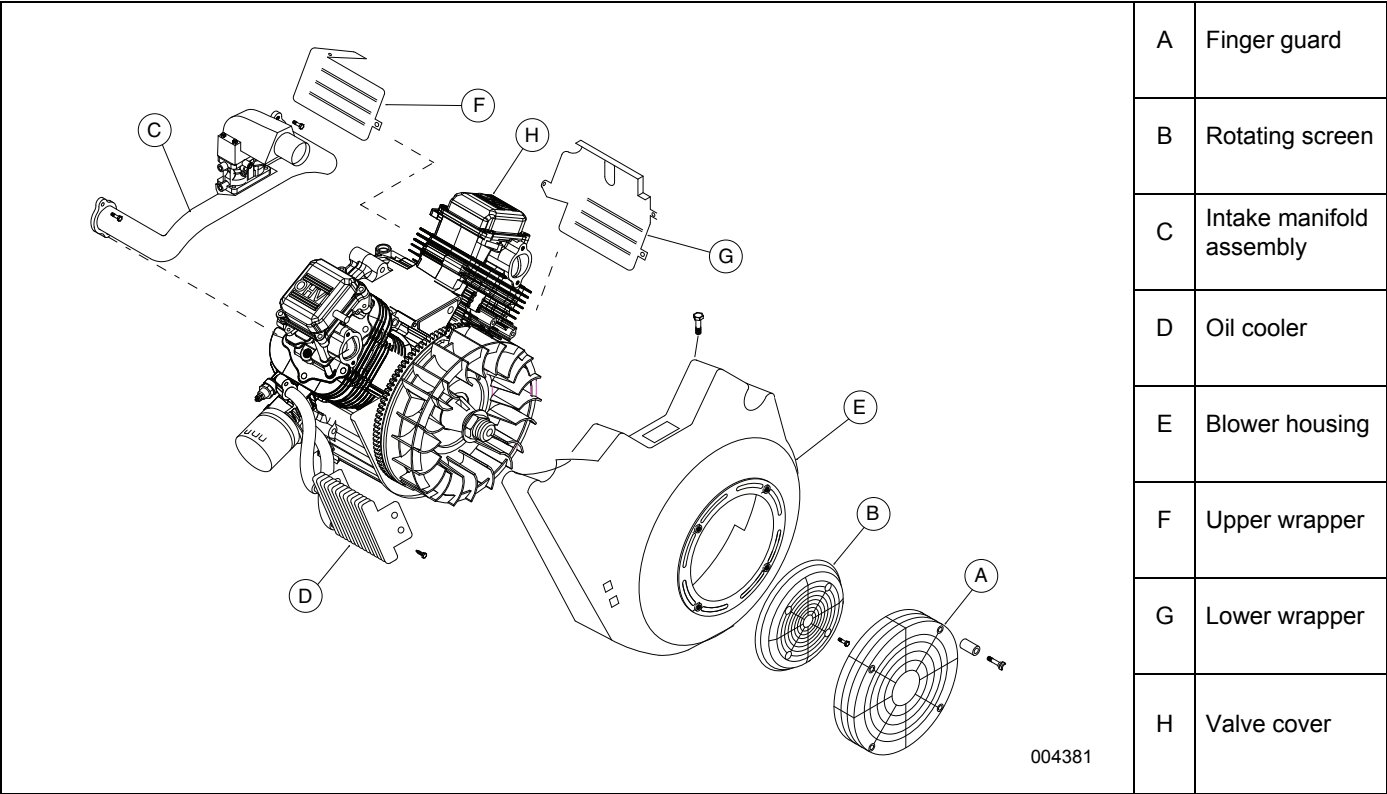

Figure 13-18. Exploded View
- 1. See **Figure 13-18**. Install upper and lower wrappers (F, G).